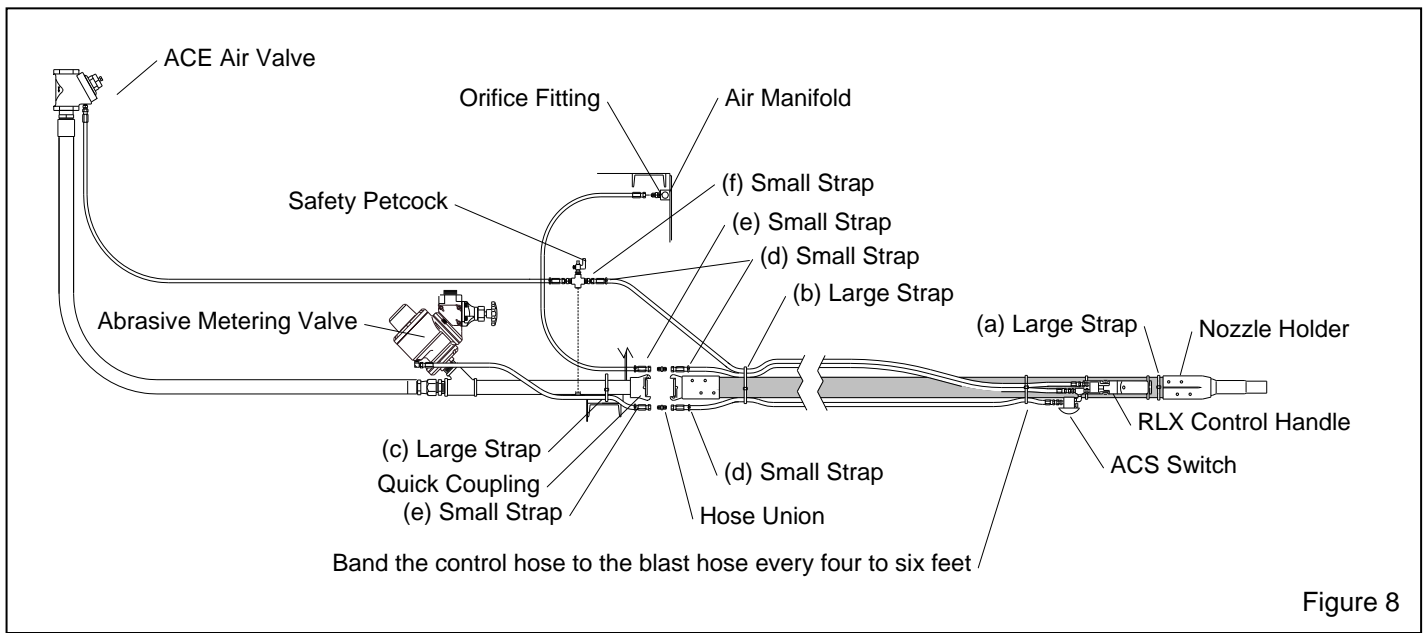

Figure 8
2.3.4 Color-Coding Pneumatic Operator Stations, Refer to Figure 8
2.3.4.3 The hose identification kit contains sets of colored straps. Use straps of the same color to color-code the blast hose and control hoses for each operator station. Use red and blue with two operator stations, use green and yellow for operator stations three and four. The letters correspond to the letters shown in parentheses in Figure 8.